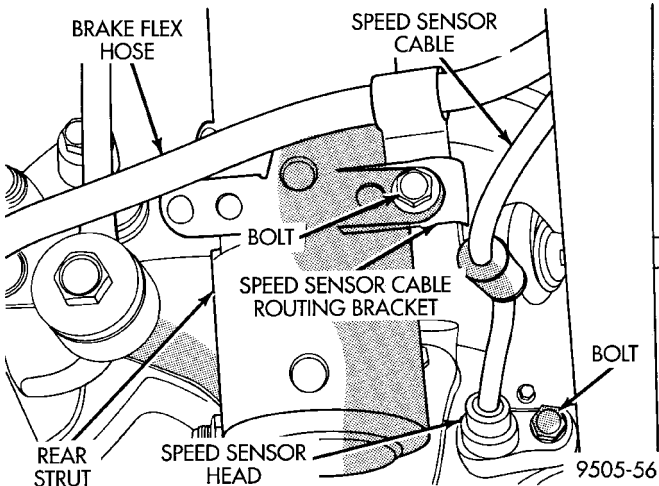

Fig. 13 Speed Sensor Head Attachment To Disc Brake Adapter
(4) If vehicle is equipped with rear disc brakes, remove rotor from hub. If vehicle is equipped with rear drum brakes, remove brake drum from hub.
(5) If vehicle is equipped with ABS brakes, remove the speed sensor head from the rear disc brake adapter (Fig. 13).
(8) If vehicle is equipped with ABS brakes, install speed sensor head into rear brake support plate or disc brake adapter or (Fig. 13). Torque speed sensor head mounting bolt to 7 N·m (60 in. lbs.).